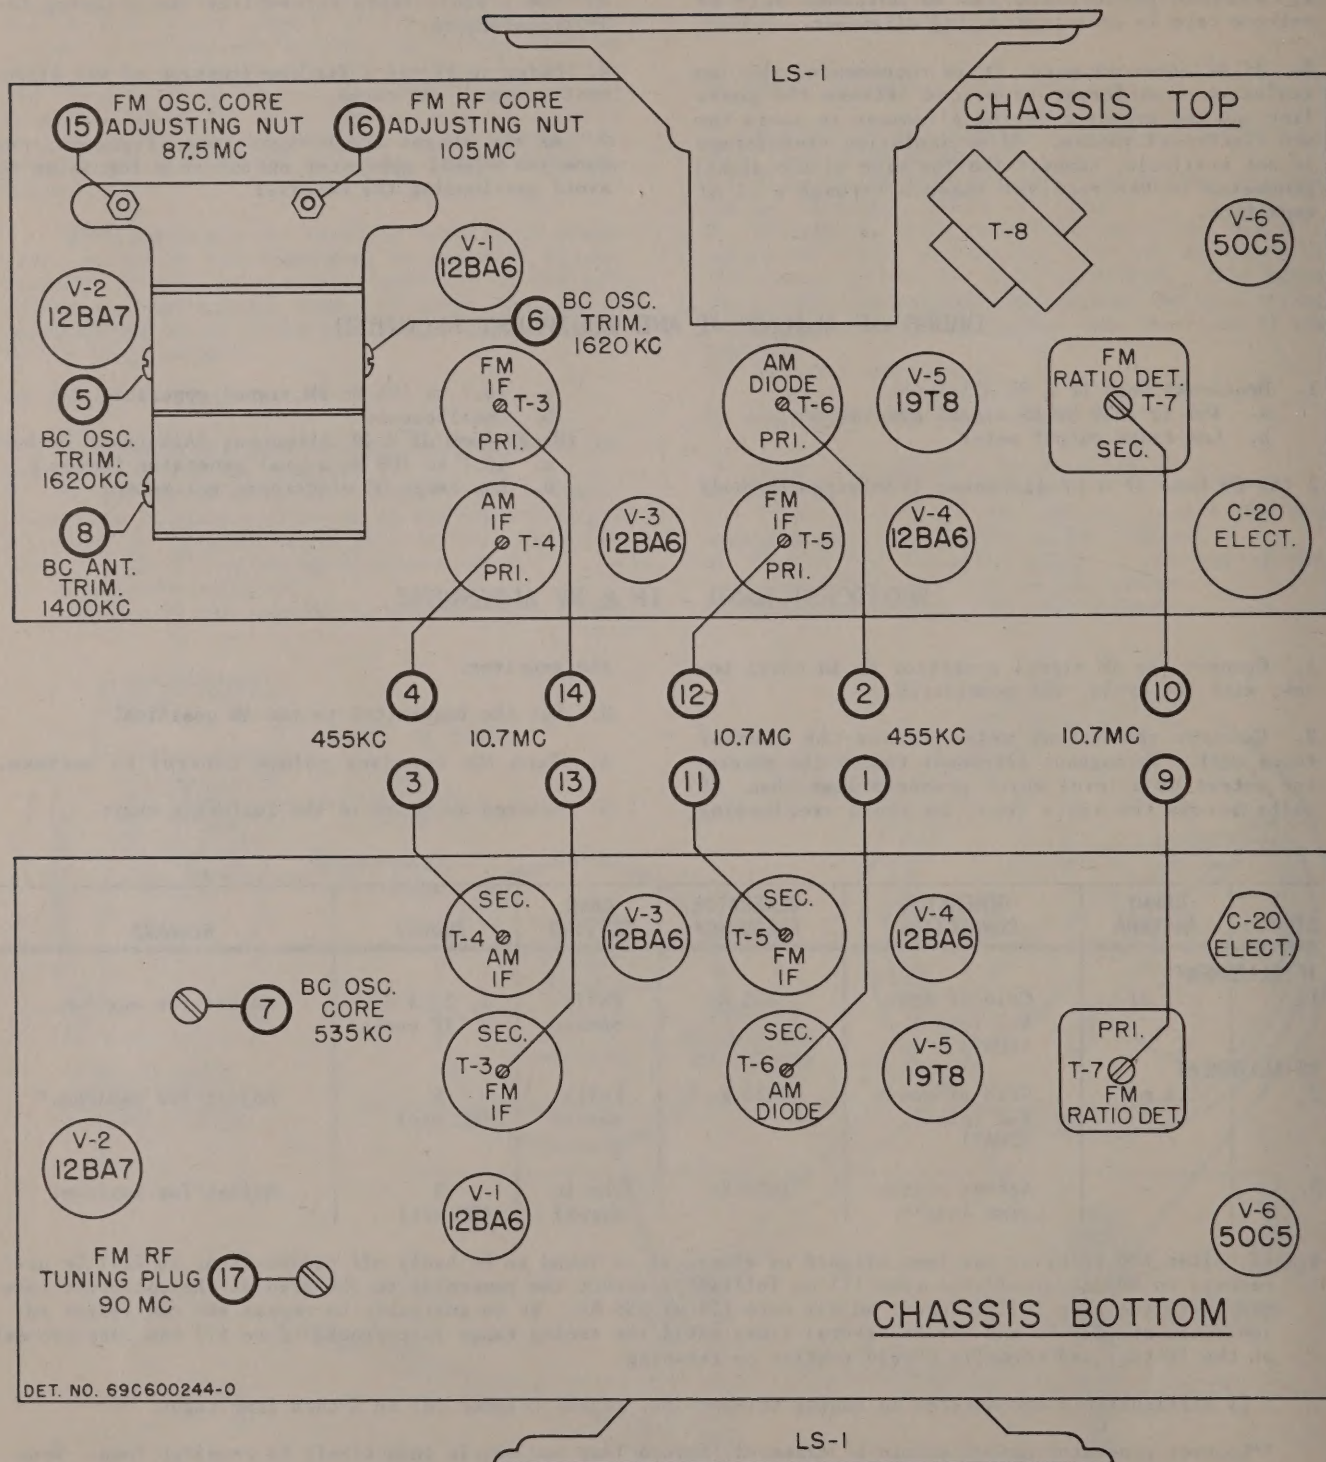

FIGURE 2. TUBE & TRIMMER LOCATIONS
4. Refer to Figure 2 for the location of all alignment trimmers and cores.